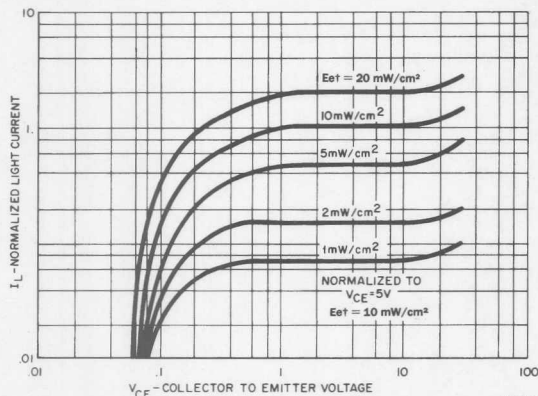
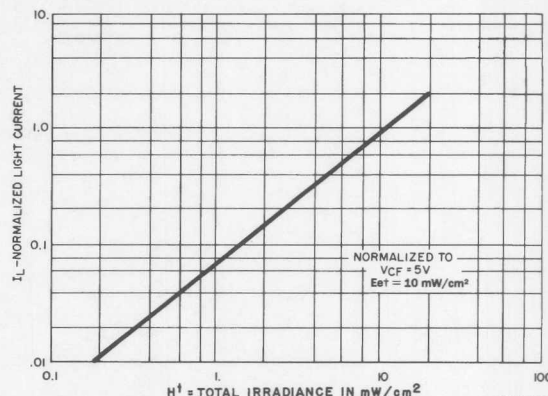

Fig. 1. Light Current vs. Collector to Emitter Voltage
Fig. 2. Normalized Light Current vs. Radiation
8. Figure 1 and figure 2 use light source of tungsten lamp at 2870°K color temperature. A GaAs source of 3.0 mW/cm² is approximately equivalent to a tungsten source, at 2870°K, of 10 mW/cm².